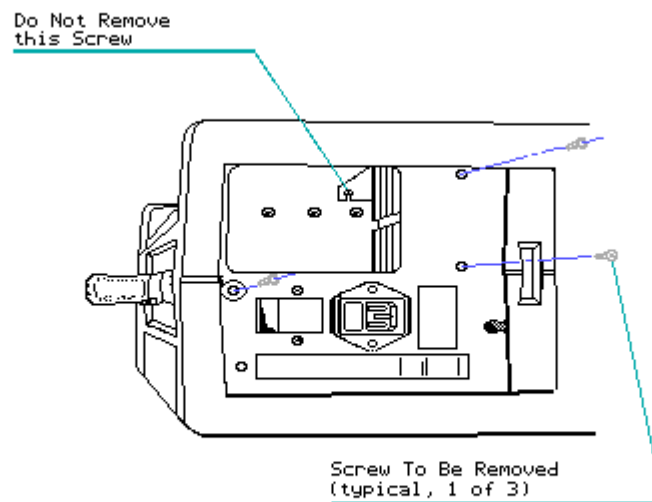

Figure 7.8-16. Fan/Bracket Assembly Screws
4. Now remove the remaining three screws that secure the fan/bracket assembly in place (Figure 7.8-16).